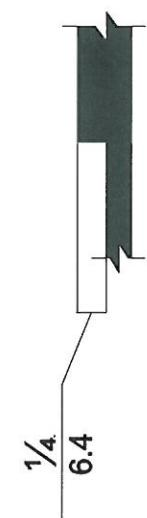

FIGURE 303.2
- 19 All doors that are part of an accessible route shall have door thresholds shall provide a 0.5" (12 mm) max. change of level, beveled with a slope no greater than 1:2 (2010 ADA Fig. 303.2).